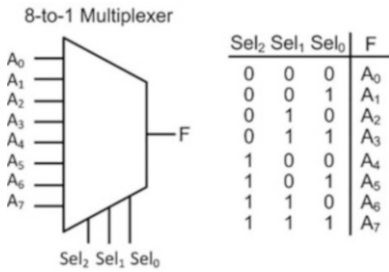

Fig. 2.54
2.2.19 Design an 8-to-1 multiplexer by hand. The block diagram and truth table for the multiplexer are given in Fig. 2.54. Give the minimized logic expressions for the output and the full logic diagram for the system.